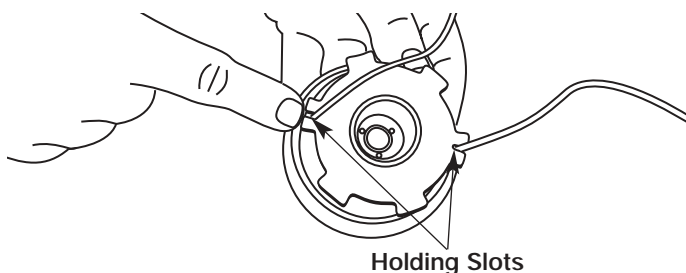

FIGURE 19
- Insert the ends of the line into the two holding slots, Figure 19.